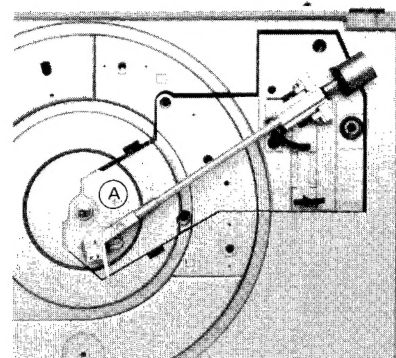

Fig. 13
4. Move the tonearm in direction of the center spindle as shown in Fig. 13.
2. Set the tonearm as in Fig. 13.